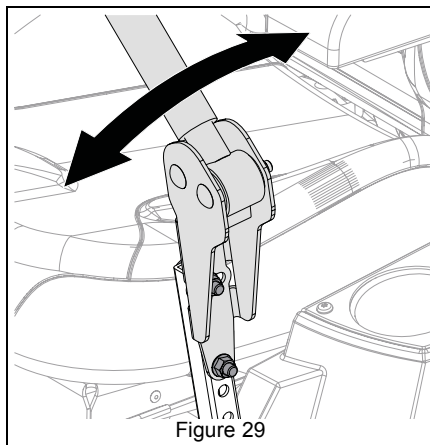

Figure 29
8. Loosen mounting hardware, align levers and tighten hardware. See Figure 29.